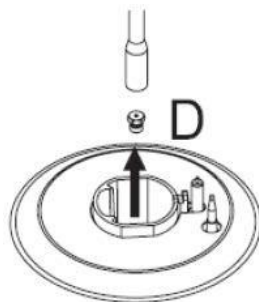

Fig. 9
- 4) Unscrew the injectors (D) using a 7mm spanner (Fig. 9), and replace them with those needed for the new type of gas according to what is indicated in the Energy Consumption Table.